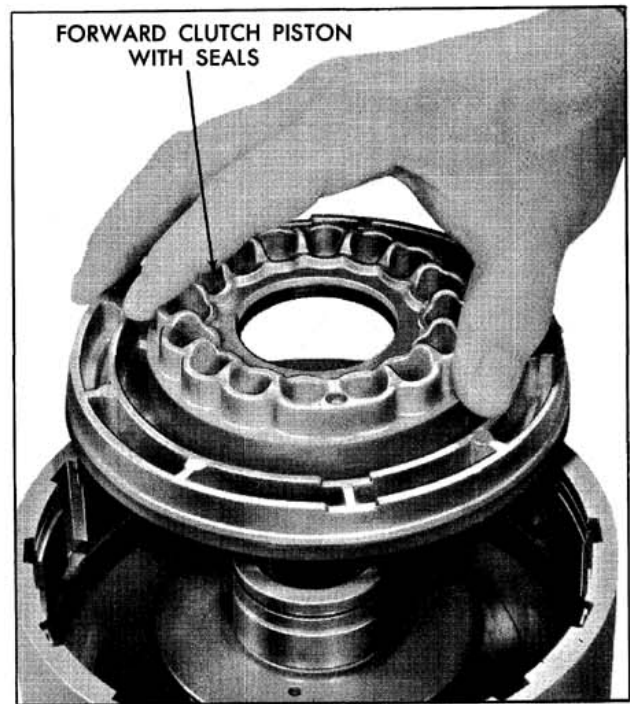

Fig. 6-132 Removing Forward Clutch Piston
8. Remove the forward clutch piston. (Fig. 6-132)